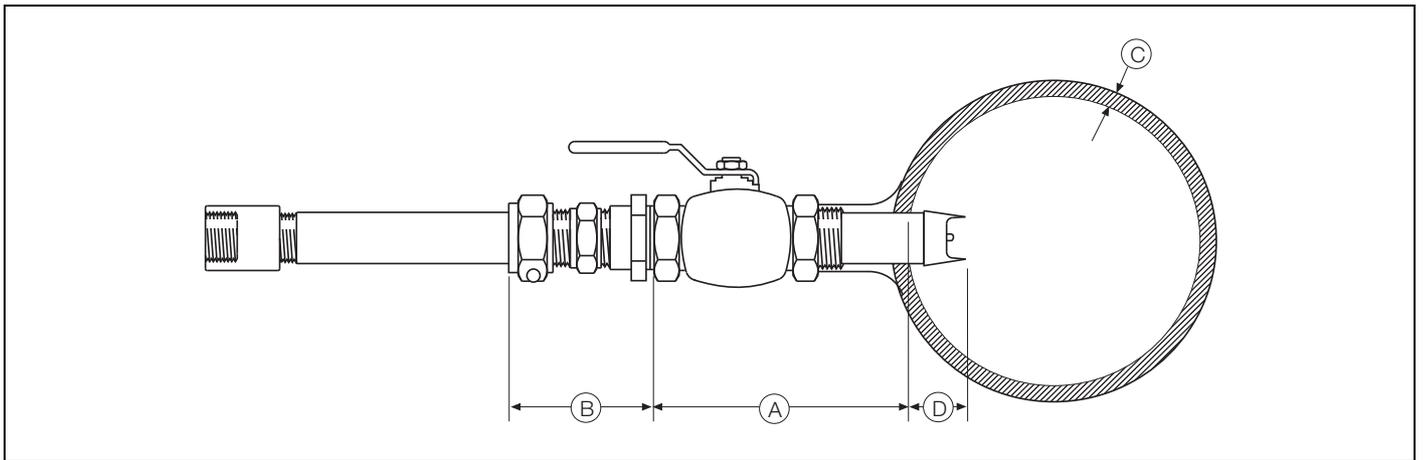

Fig. 2.5 Installing the AP304/5 – Installation Measurements
3. Measure and record the following distances – see Fig. 2.5:
- outside of pipe/vessel to the reducer at the back end of the valve (A).
- length of compression fitting after insertion into the reducer (B)?
- pipe/vessel wall thickness (C).
- sensor insertion depth (D).